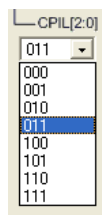

Figure 3-41
- (1) Click the network by mouse, CPIL is select to the specified network.
- (2) Click the network switch by mouse, CPIL is select to the specified network.
- (3) Click the mouse, a menu as Figure 3-41 will appear. Users can select to the specified switch network.